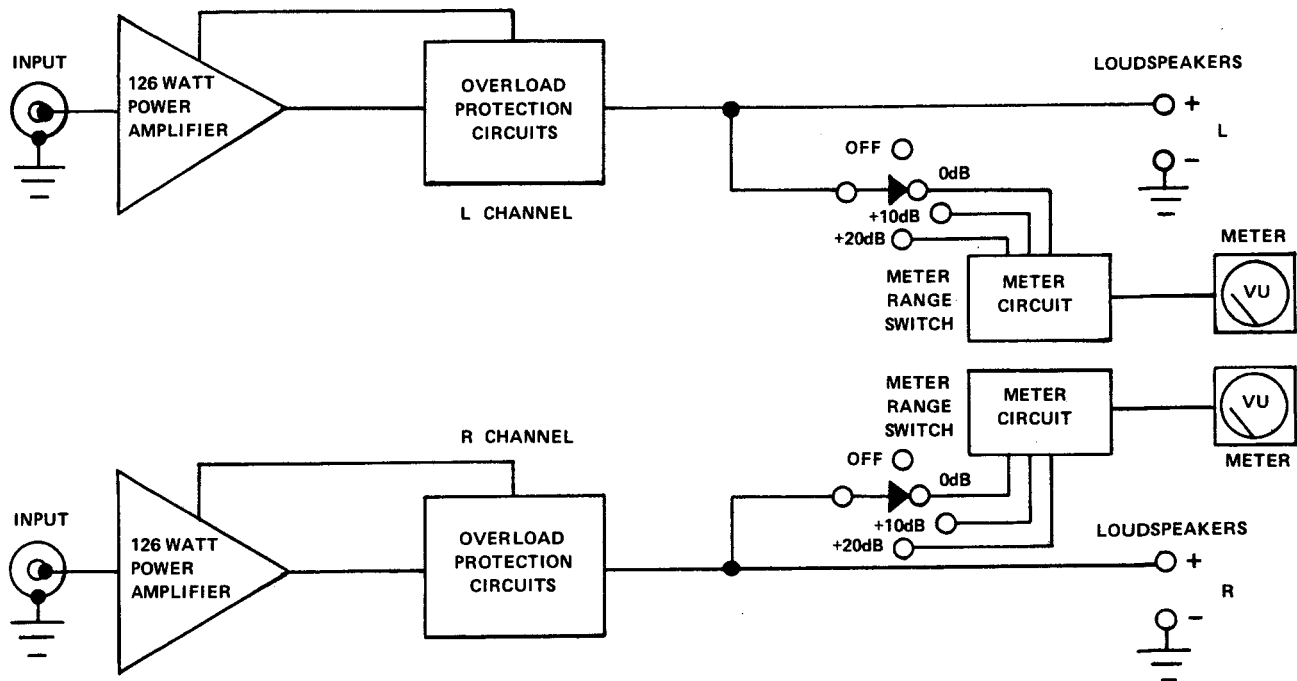
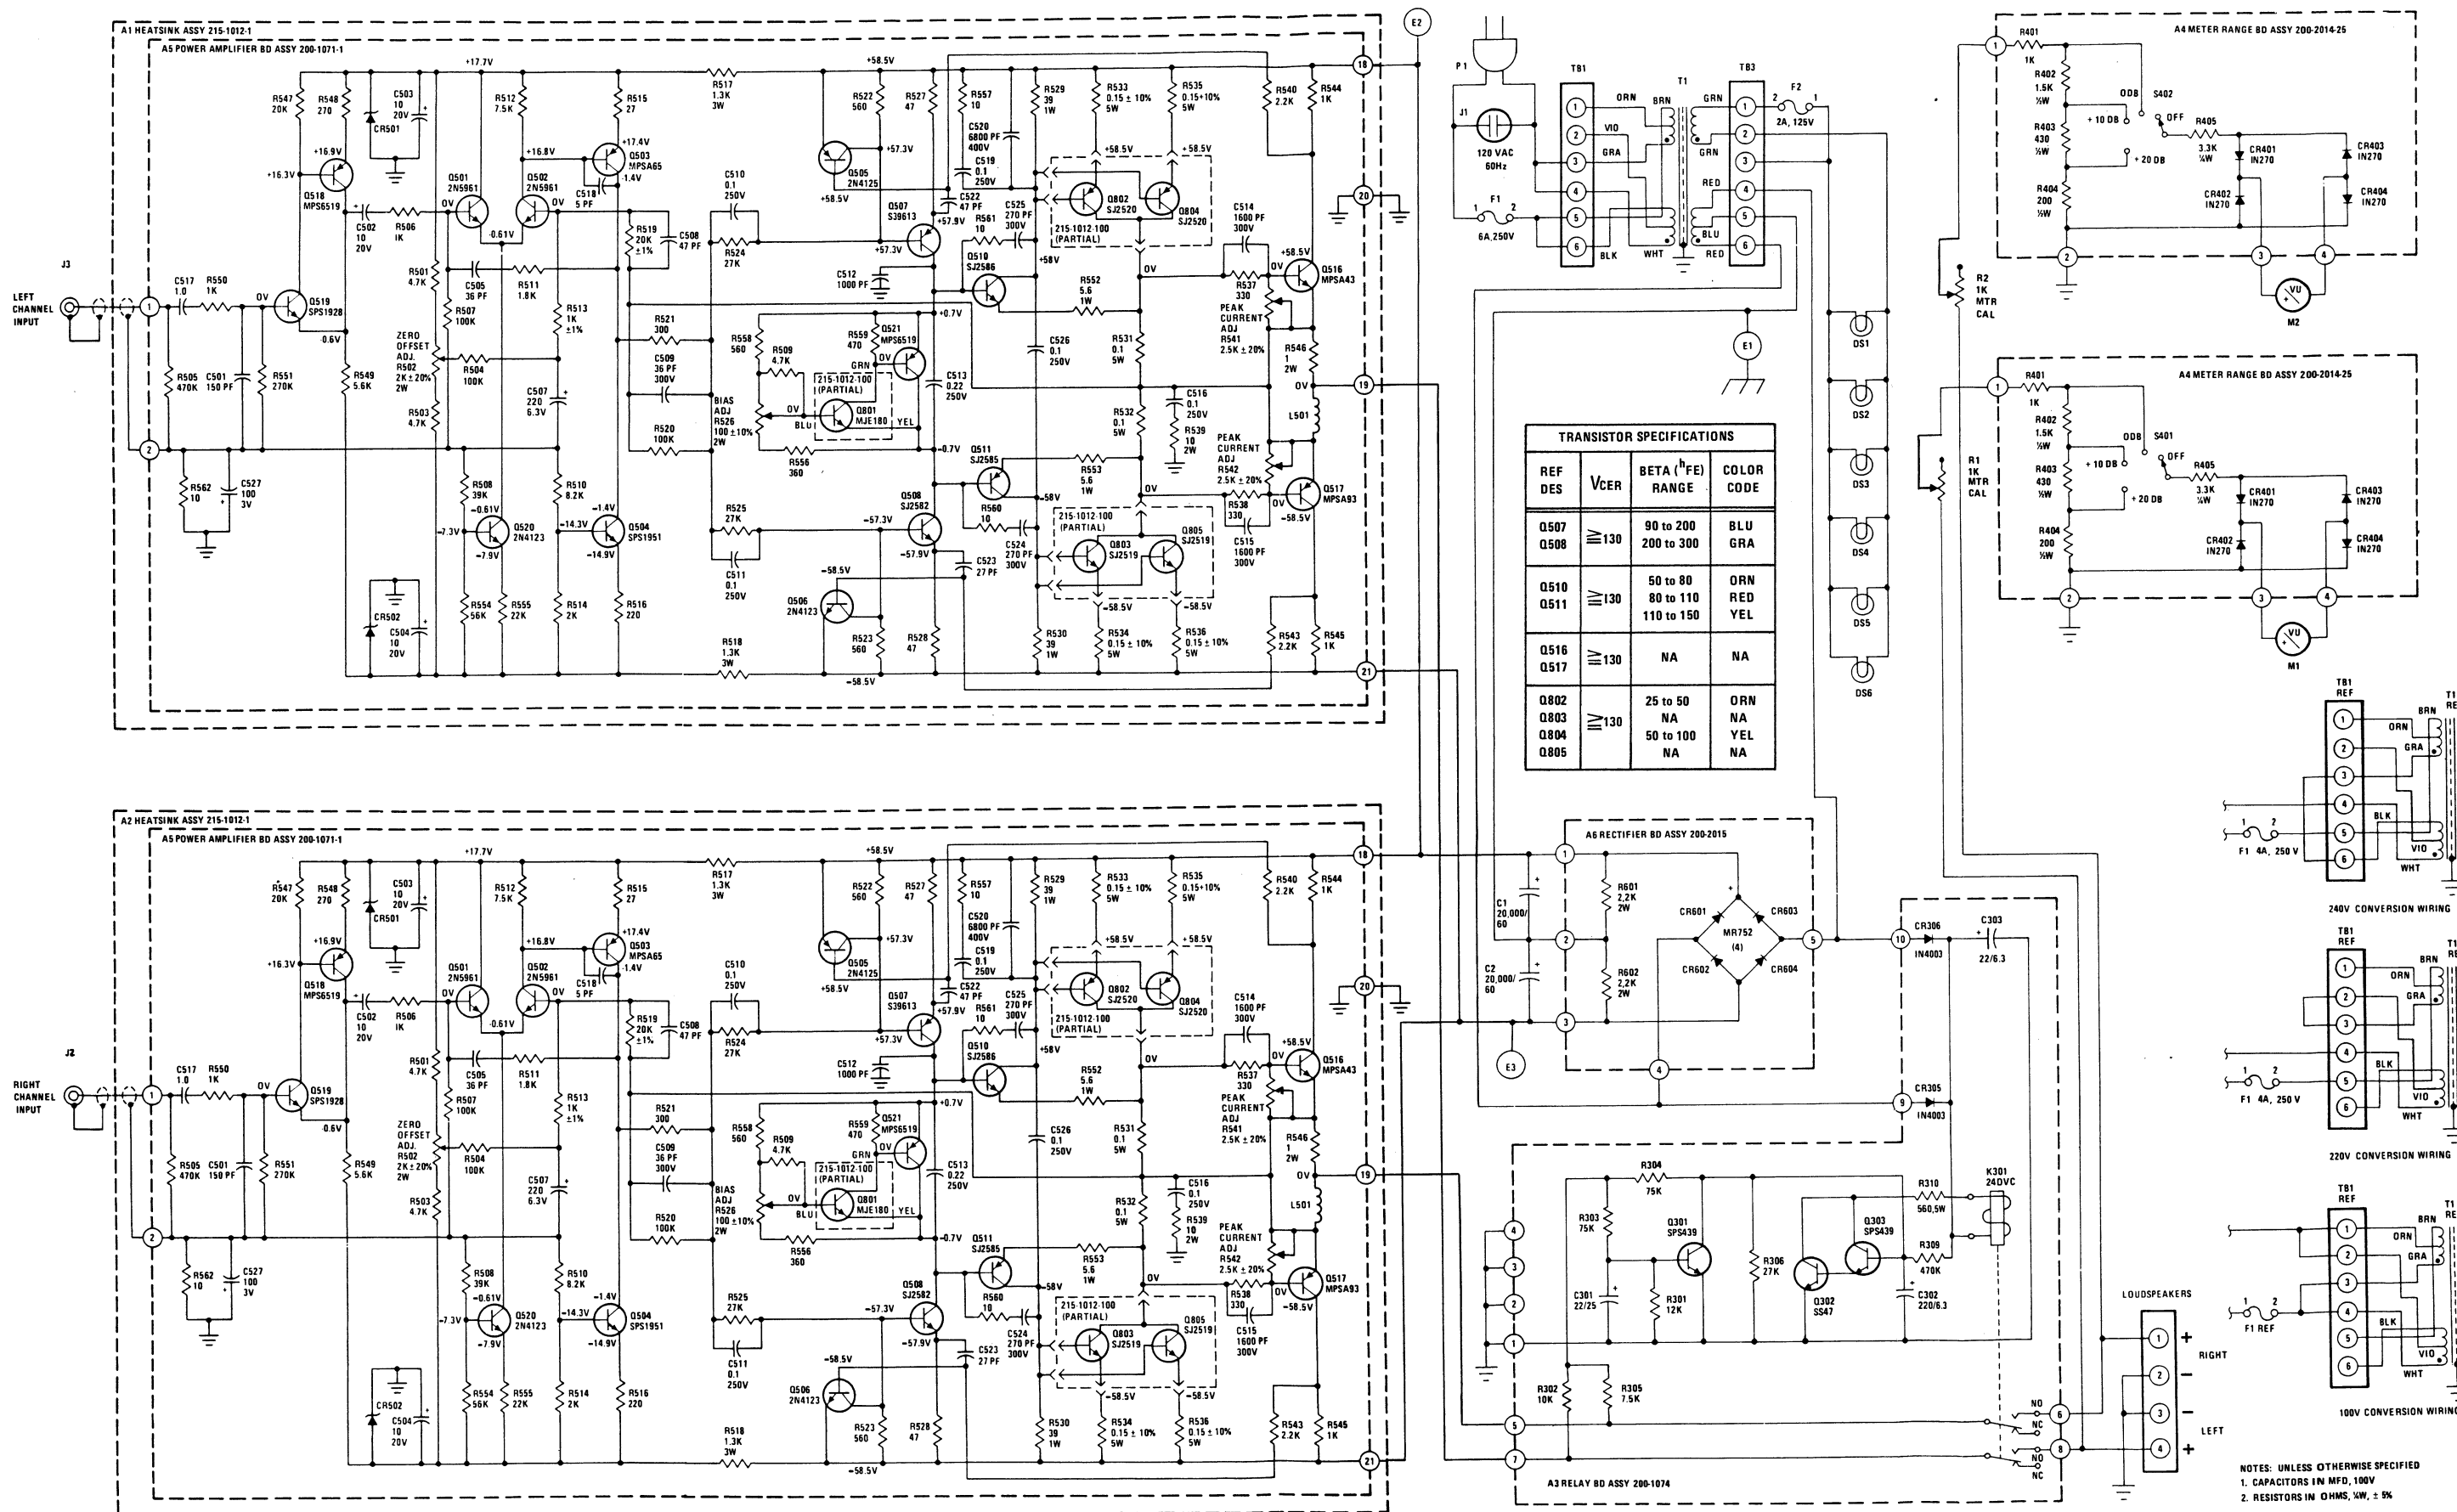
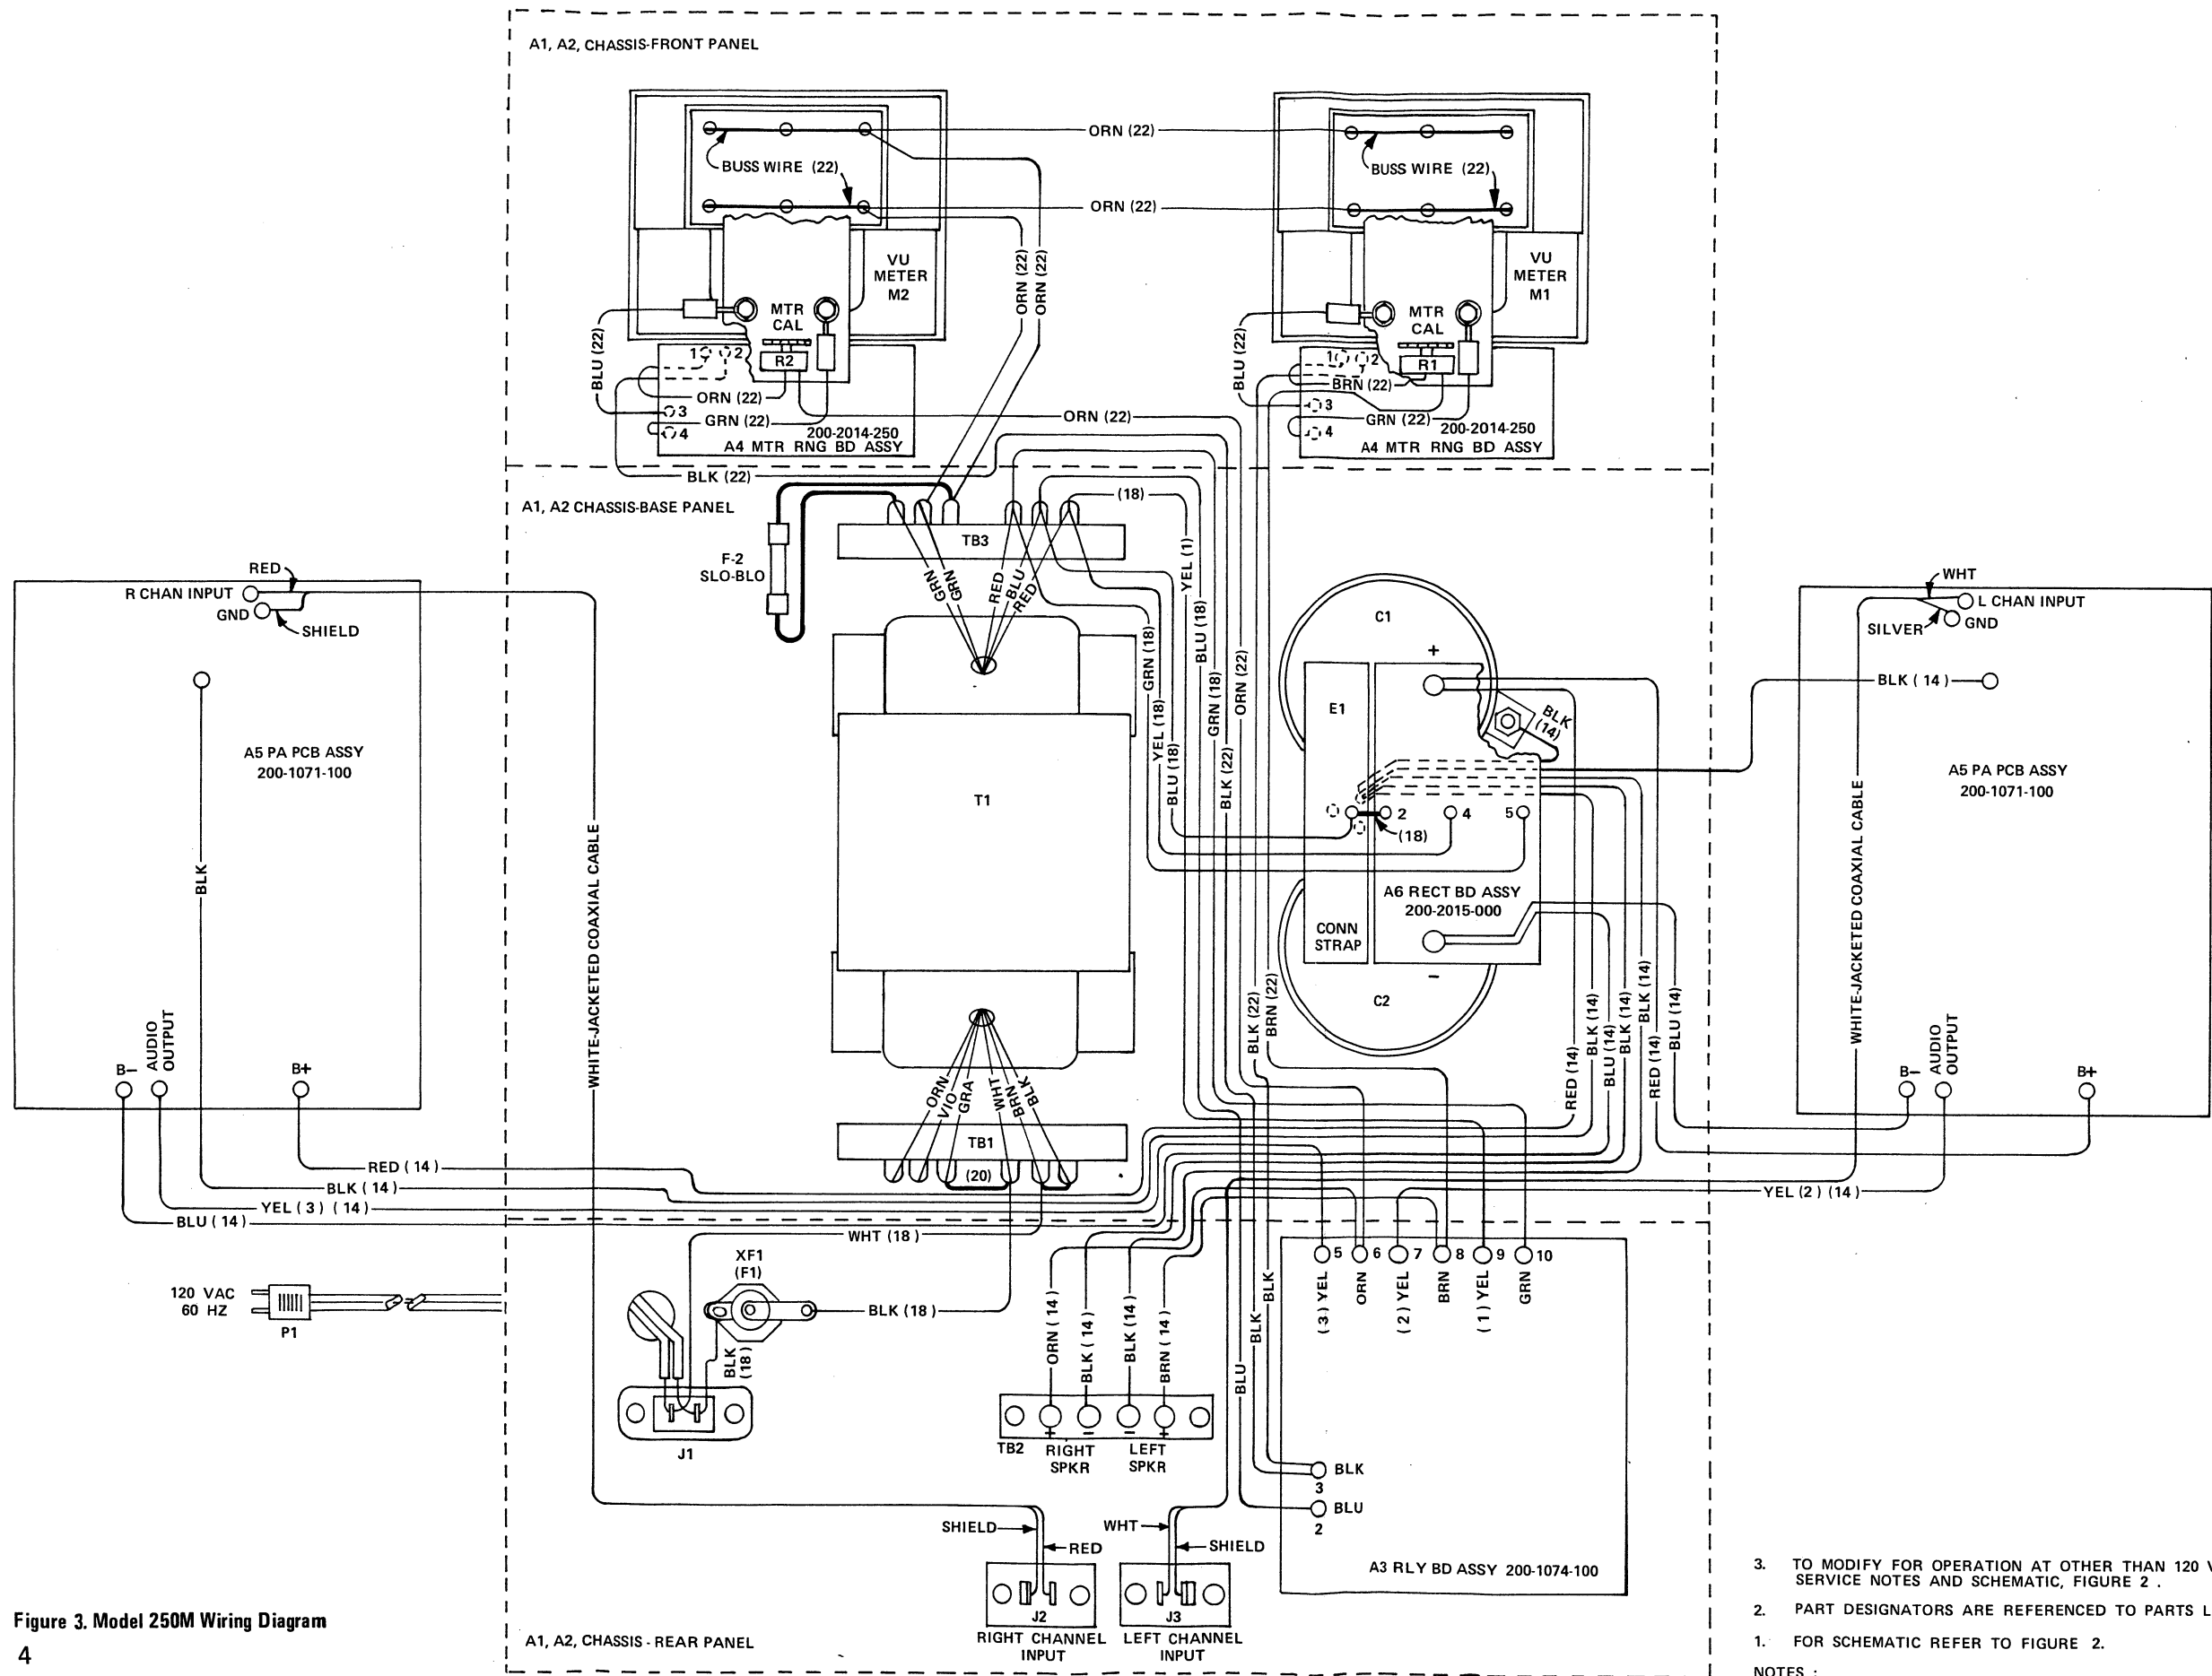

Figure 1. Model 250M Simplified Block Diagram
Figure 2. Model 250M Schematic Diagram
Figure 3. Model 250M Wiring Diagram
Performance evaluation tests and service of the Model 250M should be undertaken only by the experienced technician, one knowledgeable in solid-state amplifier operation and use of the test equipment. All instructions should be read carefully and understood fully before proceeding with any service. To better understand the functions of this amplifier, consult the Block Diagram, Figure 1, the Schematic Diagram, Figure 2, the Wiring Diagram, Figure 3, and the circuit description of the unit.
The input stage of the Power Amplifier circuit, Figure 2, is a unity gain, complementary feedback pair, (Q518 and Q519). The output of this stage is coupled through C502 and R506 to the differential amplifier (Q501, Q502), which drives an inverter (Q503) whose collector load is a current source Q504. The inverter is coupled to complementary pre-drivers (Q507, Q508). The outputs of the pre-drivers are applied to their respective drivers (Q510, Q511) which are coupled to their respective power transistors (Q802, Q804 – Q803, Q805).
The output of the Power Amplifier is applied to the wipers of relay K301 on the Relay Board, Figure 2. Relay K301 energizes after a minimum delay of two seconds after turn on. Power for Q301, Q302, Q303 and K301 is supplied by CR305 and CR306. The length of the delay is a factor of the time constant of R306, R309, and C302. This delay at turn-on is to prevent any transient surges from reaching the output terminals. Additionally, resistors R302 and R305 sample the audio output signals. Should a constant dc level more than +4.5 volts, or a high amplitude signal less than 10 Hz be present, Q301 will turn on, shorting the base of Q303 to ground. Q302 begins to discharge and K301 de-energizes. If a constant dc level more than -4.5 volts is present, the voltage drop across R304 bucks the voltage present at the base of Q303 and K301 de-energizes. The output from K301 is applied to the loudspeaker terminals.
3. TO MODIFY FOR OPERATION AT OTHER THAN 120 V, REFER TO SERVICE NOTES AND SCHEMATIC, FIGURE 2 .
1. FOR SCHEMATIC REFER TO FIGURE 2.
3. Refer to Figure 2, Schematic Diagram and Figure 3, Wiring Diagram to locate detailed parts and wires referenced.
1. Set Line Switch to OFF. Preset the bias adjustment potentiometer R526 on each amplifier board fully CCW, Figure 2.